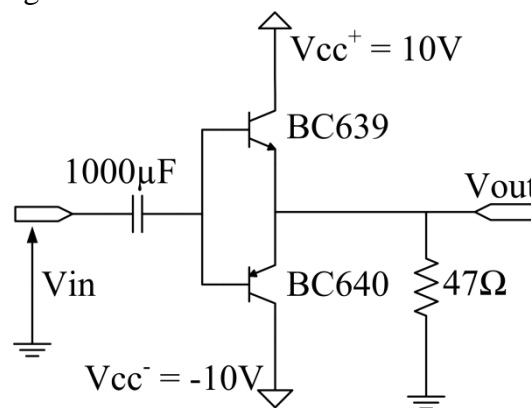

Figure 2
a) Connect the push-pull (complementary symmetry) class 'B' power amplifier shown in figure 2. Paste your circuit diagram.